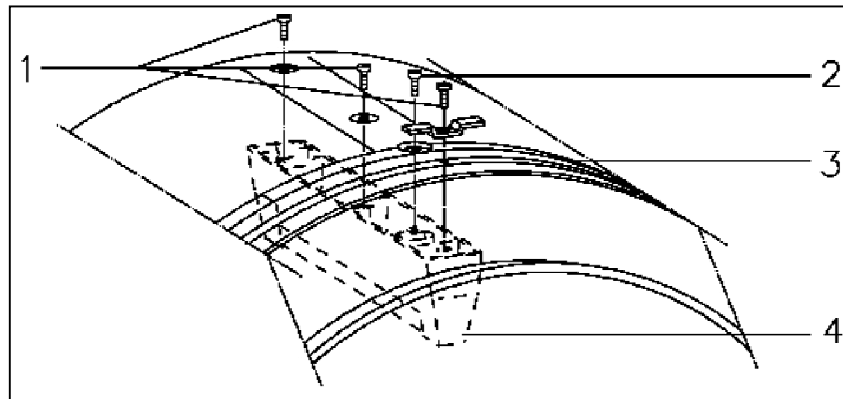

Figure 030-2: Drum Rib Hardware
2. Refer to Figure 030-2,
3. Remove the screws (1).
4. Remove the slip ring screw (2).